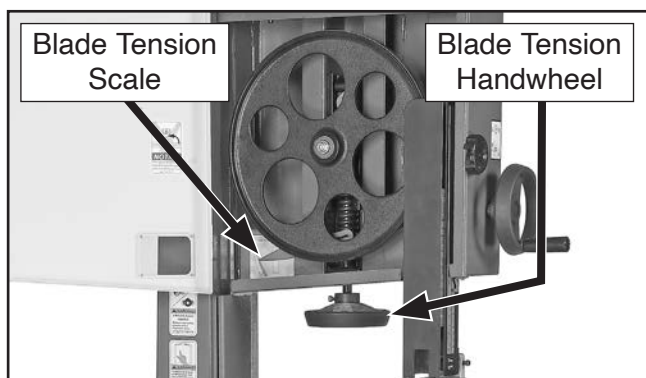

Figure 40. Blade tensioning controls.
4. Open upper wheel cover (see **Figure 40**).
5. Rotate blade tension handwheel until tension scale (see **Figure 40**) is between 4 and 6. Rotate handwheel *clockwise* to *increase* blade tension. Rotate handwheel *counter-clockwise* to *decrease* blade tension.